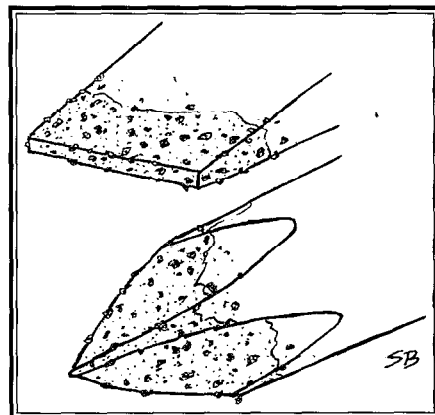

Figure 3 — Non-slip screwdrivers showing embedded carbide particles.
Screwdrivers have a nasty habit of slipping out of the slot and marring surrounding surfaces. This tendency can be minimized by keeping your screwdriver tips clean and sharp, but it's easy to forget to do this maintenance. At the Dearborn convention last summer I spotted some screwdrivers which address this problem by utilizing tiny carbide particles embedded in the steel of the tip (See Figure 3). Available from Webb Phillips & Associates at (215) 674-2555, the special screwdrivers are available in a variety of sizes and configurations: slotted, Phillips, with handles or as bits for power screwdrivers.